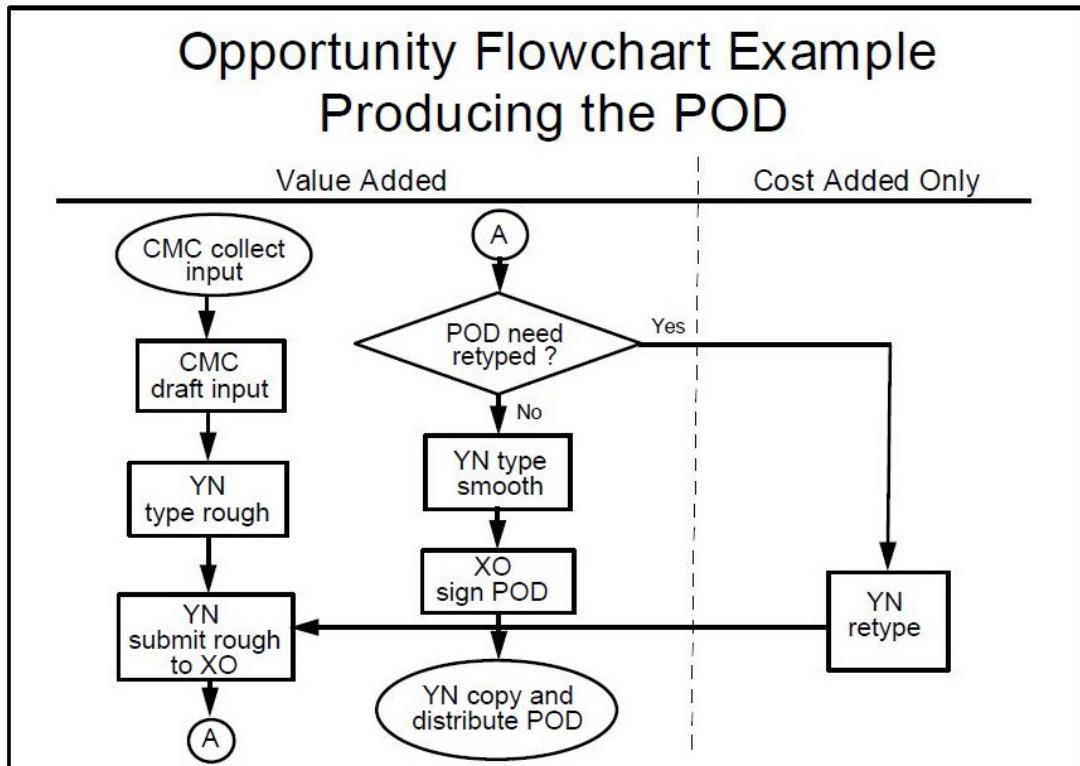

**Figure 2.5.6b** Example of a Deployment Flow Chart
**Deployment Flowchart.** A Deployment Flowchart shows the actual process flow and identifies the people or groups involved at each step (Figure 2.5.6b). Horizontal lines define customer-supplier relationships. This type of chart shows where the people or groups fit into the process sequence, and how they relate to one another throughout the process.